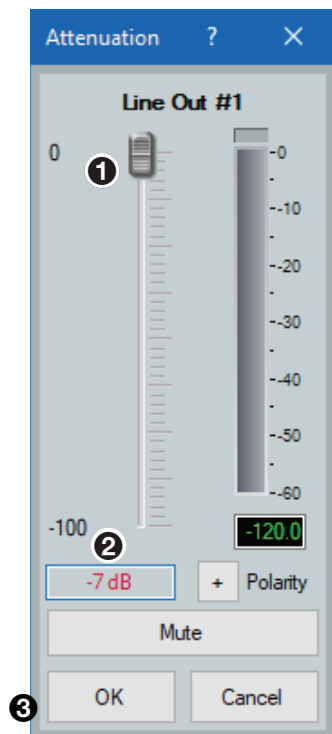

Figure 59. Line Out Dialog Box
5. Set the Line Output attenuator(s) to -7 dB. The attenuation value can be adjusted by either dragging the fader (see figure 59, ①), or clicking in the display box (②), and manually entering the desired value.